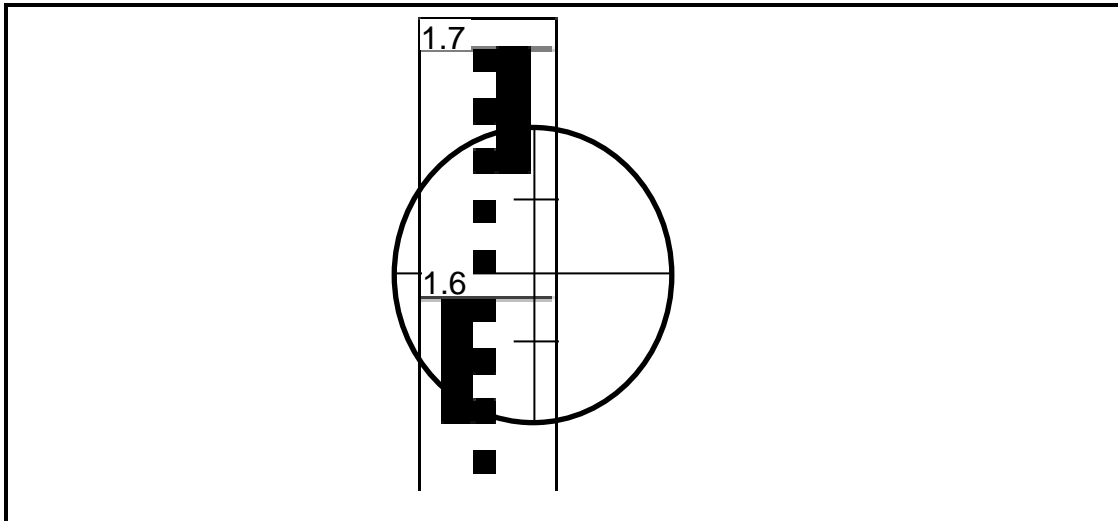

FIGURE 2.6
2.6 FIGURE 2.6 shows the **dumpy level reading** which is taken on the **telescopic staff**. **Answer** the following **questions** with regard to the reading.